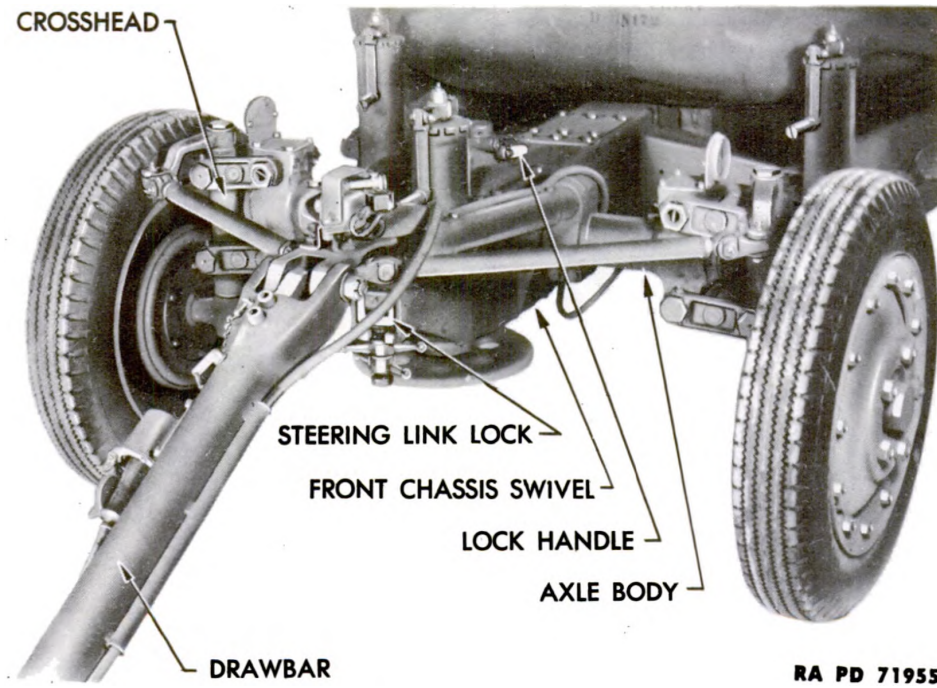

Figure 59 – Front Axle – Traveling Position
(1) The drawbar (fig. 59) is a strong tubular member which serves to connect the carriage to the prime mover, to actuate the steering mechanism of the carriage, and to provide a lever for lower-
locked to the front end of the front chassis swivel by the steering link lock (fig. 59).